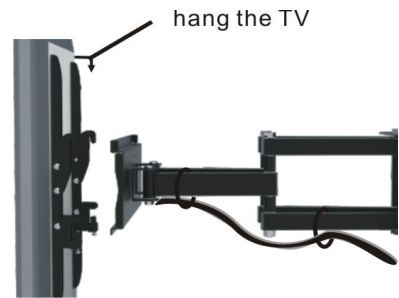

Figure 7
- 1 Hang the display plate onto the top of the wall plate and slip onto the wall plate as shown (Figure 7).